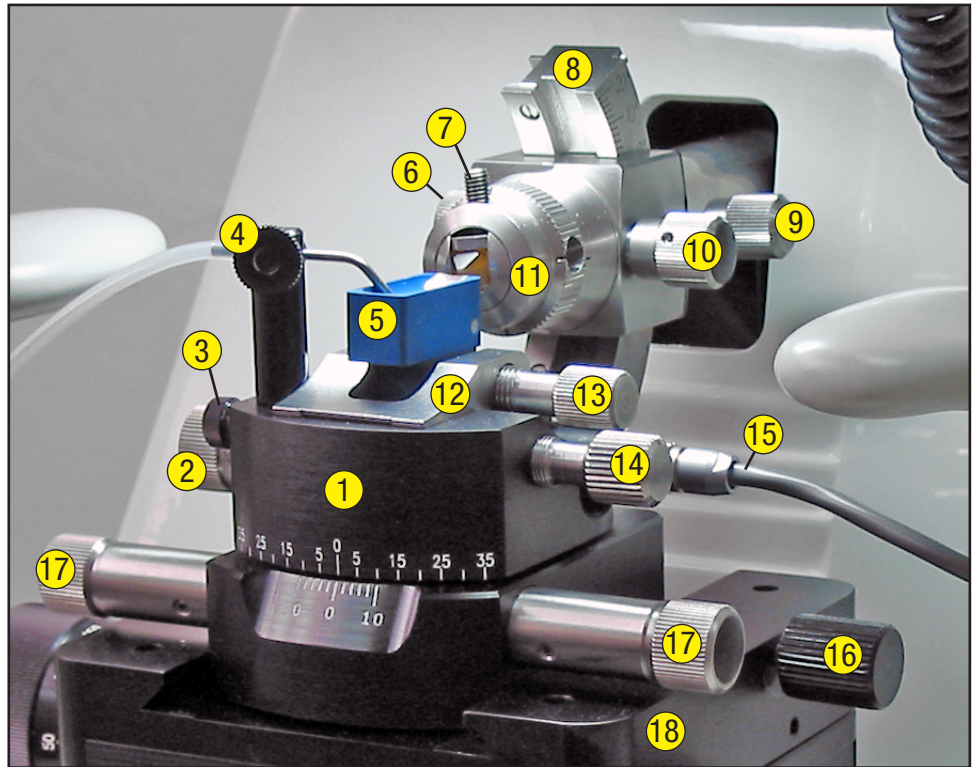

Figure 4: Upper Stage and Arc Segment Holder
- *“Figure 4: Upper Stage and Arc Segment Holder” on page 11*